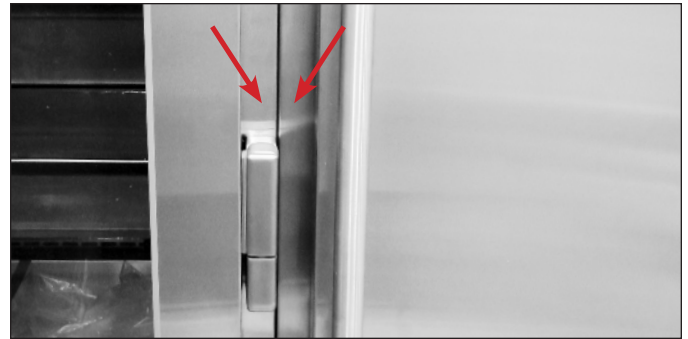

FIG. 15. Verify the appliance fronts are flush. Adjust the units accordingly.
9. Verify the fronts of the units are flush at the seams and the gap(s) between the units is (are) consistent from top to bottom. See figs. 15 and 16.